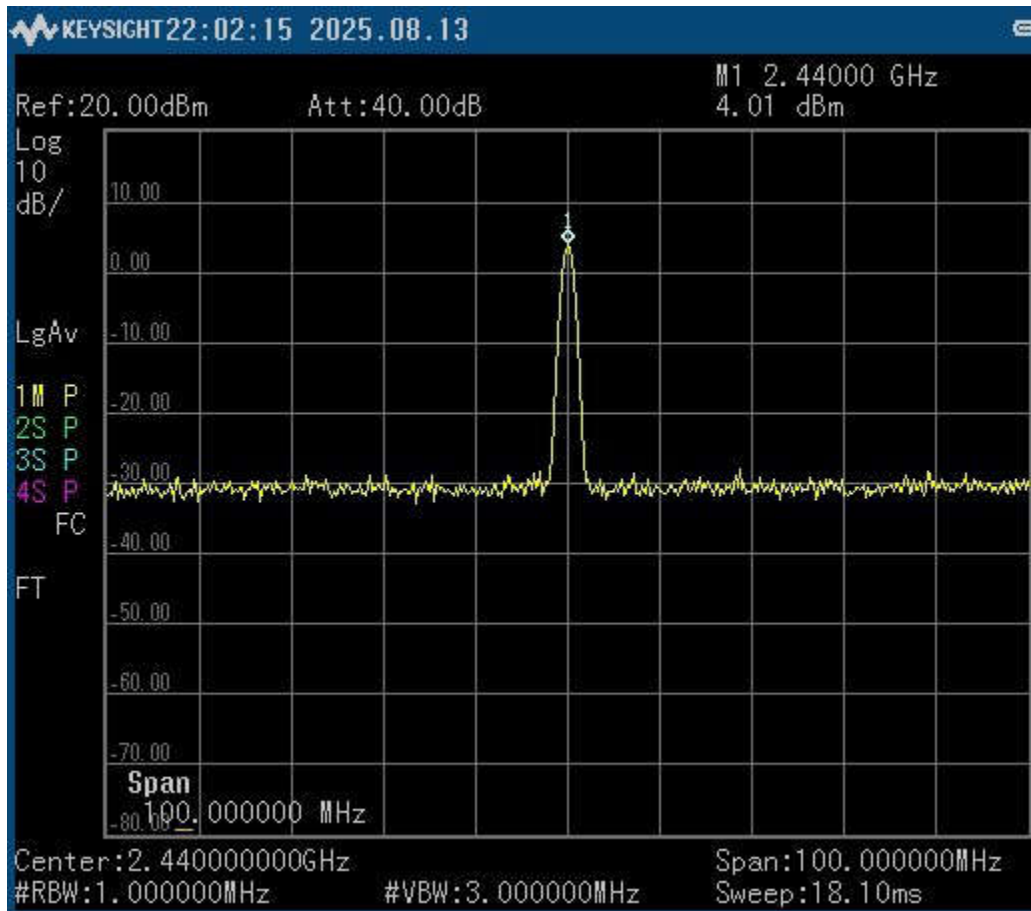

Figure 7-3. Spectrum Analyzer Output from Transmission Power Test
- Step 3: Measure the output power level on the spectrum analyzer to confirm the output power programmed on the EM. (Reference Figure 7-3 for an example of the results on the spectrum analyzer)